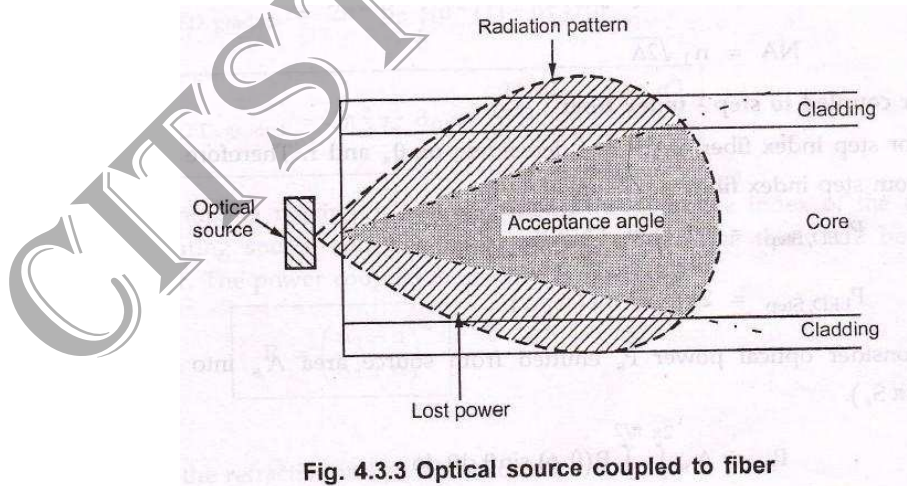

Fig. 4.3.3 Optical source coupled to fiber
- x To calculate power coupling into the fiber, consider an optical source launched into the fiber as shown in Fig. 4.3.3.